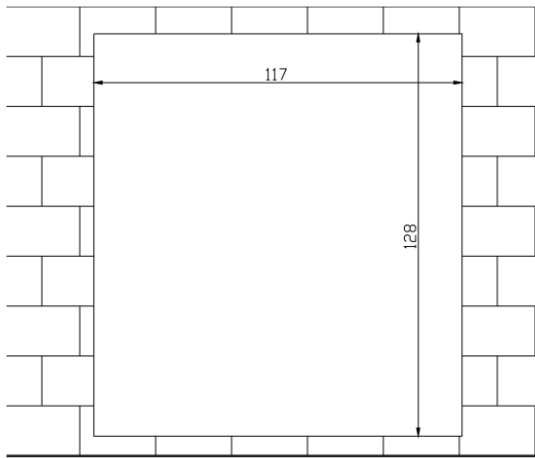

Figure 1
- Step 1. Dig a hole on wall, its dimension is 117*128*80(mm).See Figure 1